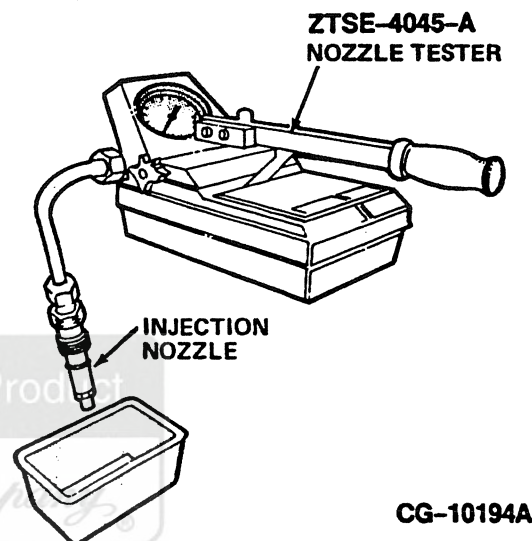

Figure 9.43. Nozzle Assembly Mounted in Test Pump ZTSE-4045-A
1. Prior to nozzle and holder disassembly, the undisturbed assembly should be connected to a hand test pump ZTSE-4045-A (Figure 9.43) and checked for opening pressure and tip leakage.
- b. Connect injection nozzle to test pump, as shown in Figure 9.43. Avoid "cross threading". The connector nut must be tightened securely with an open end wrench.